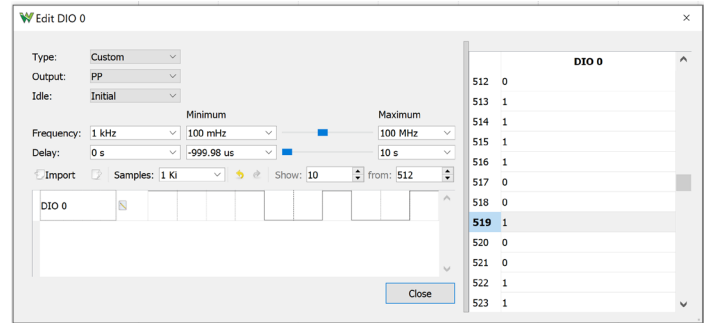

Figure 32: Custom Pattern Example for Exercise
**Exercise:** Open the Pattern Generator in a separate window so you are able to see the Oscilloscope and Pattern Generator at the same time. Connect the Digital I/O 0 wire to the orange Scope Channel 1 Positive wire and connect any of the black Ground wires to the orange stripped Scope Channel 1 Negative wire, as seen in Figure 32. Open Measurements in Oscilloscope and display the Frequency and Duty. Configure the Pattern Generator to output a PP clock at 2 kHz with a 60% duty cycle and press Run. Press Run on Oscilloscope and confirm that the Frequency and Duty cycle on the graph and using the Measurement tool. Press Stop on the Oscilloscope and exit out of the measurement tool. Change the condition to rising and level to 3V. On the Pattern Generator change the type to Custom and configure your custom signal as shown in Figure 32. Change the base time of the Oscilloscope to 2 ms/div. Press Single on the Oscilloscope, then start the pattern generator. This captures the first rising edge of the generated waveform. Change the condition to falling edge. Observe how the capture is now centered around the first falling edge.